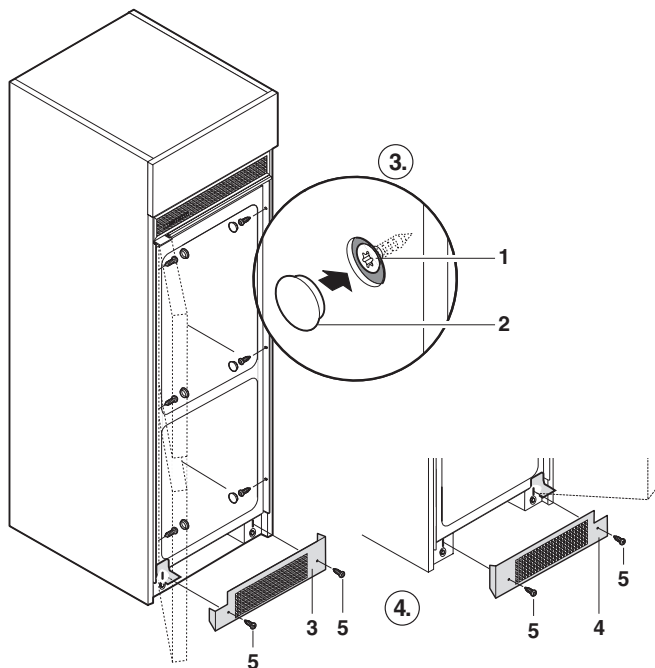

Figure 18
3. **Figure 18:** Align the appliance at the side with the cabinet side panel and attach it with screws (1).
- Cover the screws with cover caps (2).
4. Fit the ventilation grille at the bottom [(3) if the door is hinged on the left, (4) if it is on the right]: Secure the ventilation grille so that it touches the floor and then adjust it using the slots.